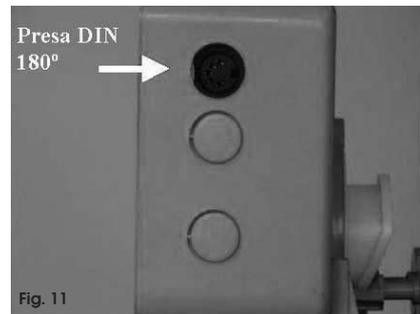

Fig. 11
- The controller is inhibited. If you use the DIN socket (Fig. 11), verify that inside the connector there are no short-circuited terminals
Fig. 11 shows the DIN 180° socket, where a liter counter sensor can be connected